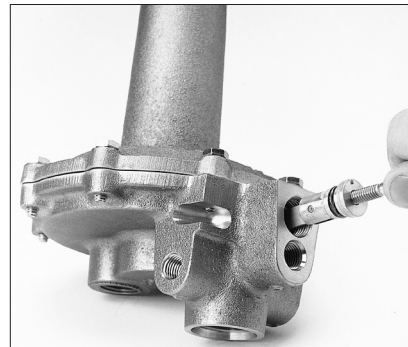

Figure 22
6. Screw a 5/16-18 UNC bolt into the Pivot and pull the Pivot & Lever assembly out of the Pilot Body (refer to Figure 22).